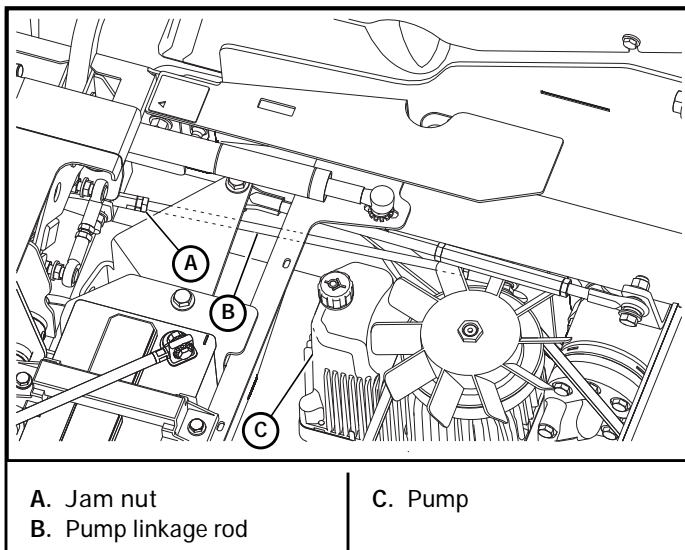

Figure 6-3
6. If wheel(s) are rotating forward, loosen the jam nuts on the pump linkage rods and rotate the rod to shorten the steering control linkage until the wheel(s) come to a stop. Figure 6-3
8. If wheel(s) are rotating in reverse, then loosen the jam nuts on the pump linkage rods and rotate the rod to lengthen the steering control linkage until the wheel(s) come to a stop. Figure 6-3